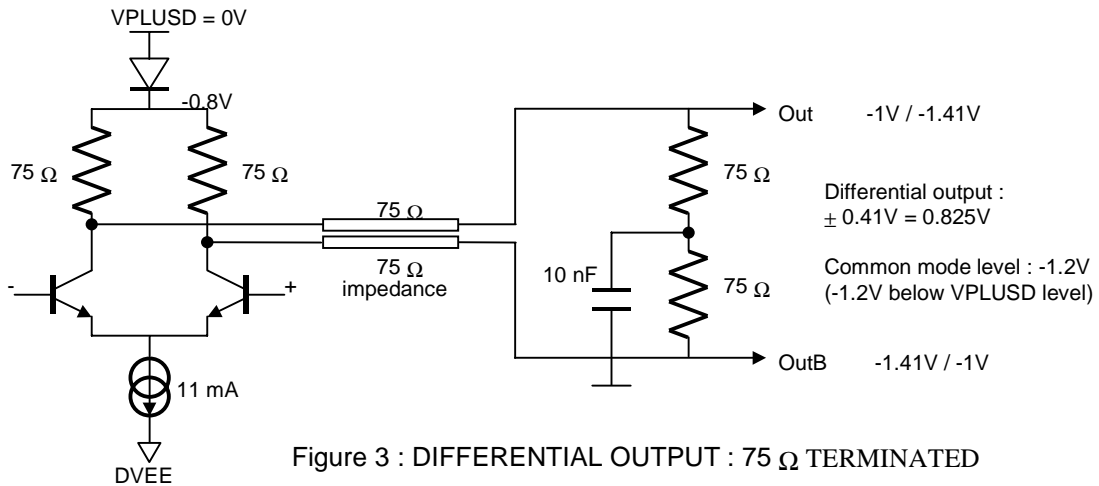

Figure 3 : DIFFERENTIAL OUTPUT : 75 Ω TERMINATED
The TS8308500 differential output buffers are internally 75 ohms loaded. The 75 ohms resistors are connected to the digital ground pins through a -0.8v level shift diode (see Figures 3,4,5 on next page).
1) 75 Ohms impedance transmission lines, 75 ohms differentially terminated (Fig. 3) :